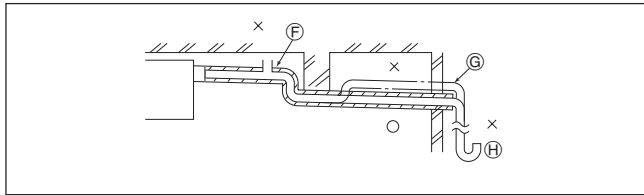

Fig. 5-2
5.2. Wrong piping (Fig. 5-2)
- (F) Air bleeder
- (G) Raised
- (H) Odor trap